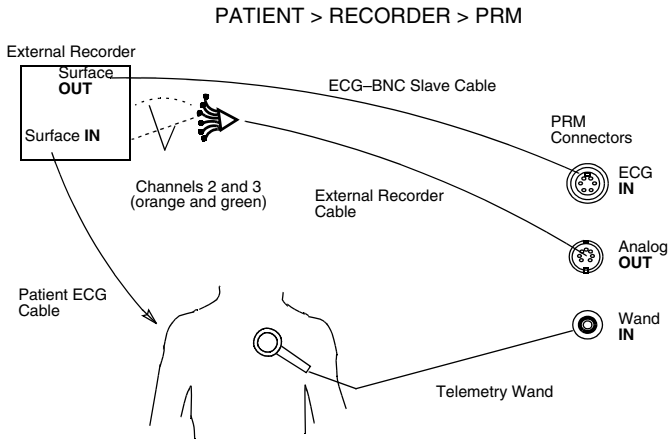

Figure 12. External recorder gets surface signal and sends it to the PRM. PRM sends electrograms to the external recorder.
- Patient to external recorder to PRM (Figure 12)
To display a tracing on an external recorder and the PRM without using the patient ECG cable, set up equipment as shown in Figure 12.